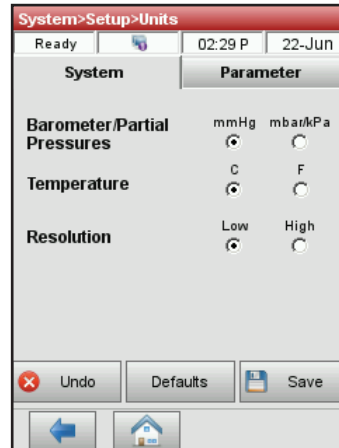

Figure 24. System Manager > Setup > Units screen
- On the Units screen, select the desired unit of measurement (figure 24).